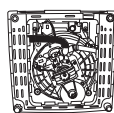

Figure 1
1. Lay down the washing machine on a piece of cardboard with the back body facing to the upside. (Figure 1)